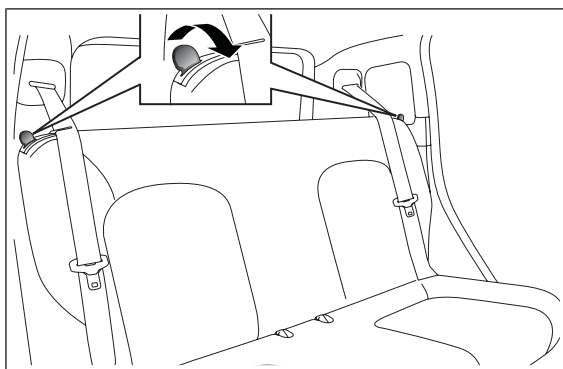

fig. 55
- ☐ operate the levers at the sides of the rear seats fig. 55 pushing them towards the inside of the car, fold the backrest and then bring the backrest onto the cushion.